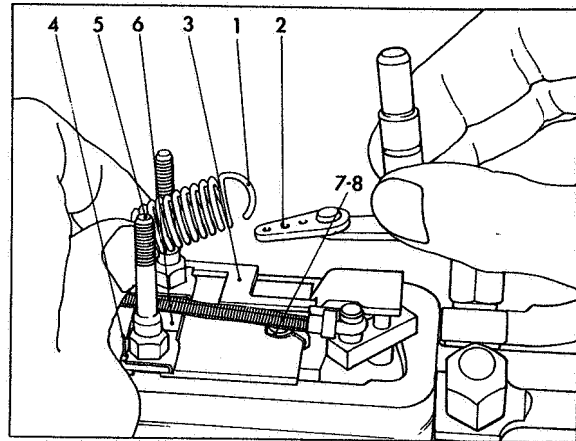

Fig 36 Dismantling throttle link
Unhook and remove governor spring (1) Fig 36 from idling spring guide and throttle shaft link (2). Remove idling spring and idling spring guide. Remove shut-off bar (3). Remove and discard governor control cover gasket.